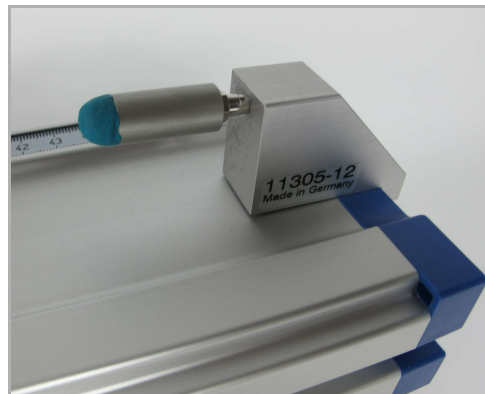

Fig. 3: End holder with plasticine
3. Attach a plasticine-filled tube to the end holder at the right-hand end of the track in order to stop the cart without a strong impact (Fig. 3).